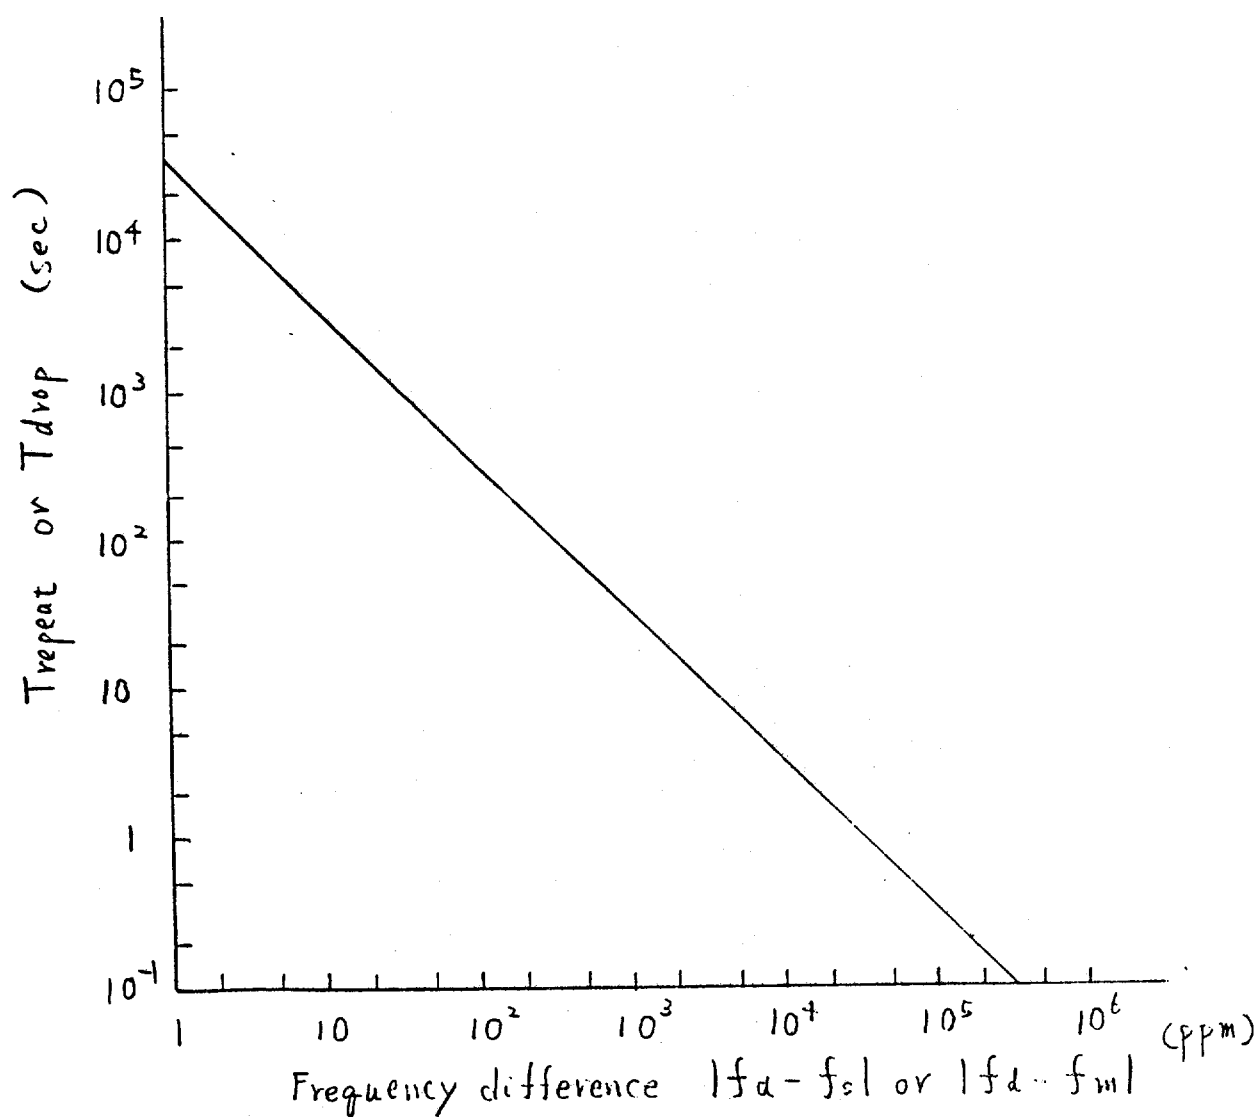

Figure 1  $T_{\text{repeat}} / T_{\text{drop}}$  vs. Decoder operation frame frequency  $f_d$
- 3) From 1) and 2), in decoded images for the Sliding Bar sequence, Sliding Bar stops every  $T_{\text{repeat}}$  sec and jumps every  $T_{\text{drop}}$  sec. Figure 1 shows the relation between the frame frequency difference and the interval of frame repeat / frame drop.
For larger value of  $f_d$ , reduction speed is higher. (See Fig.1.)